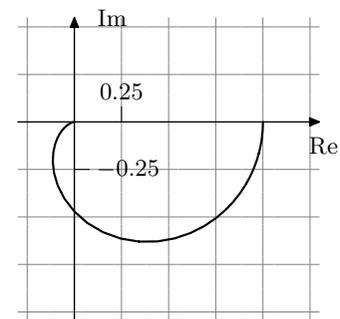
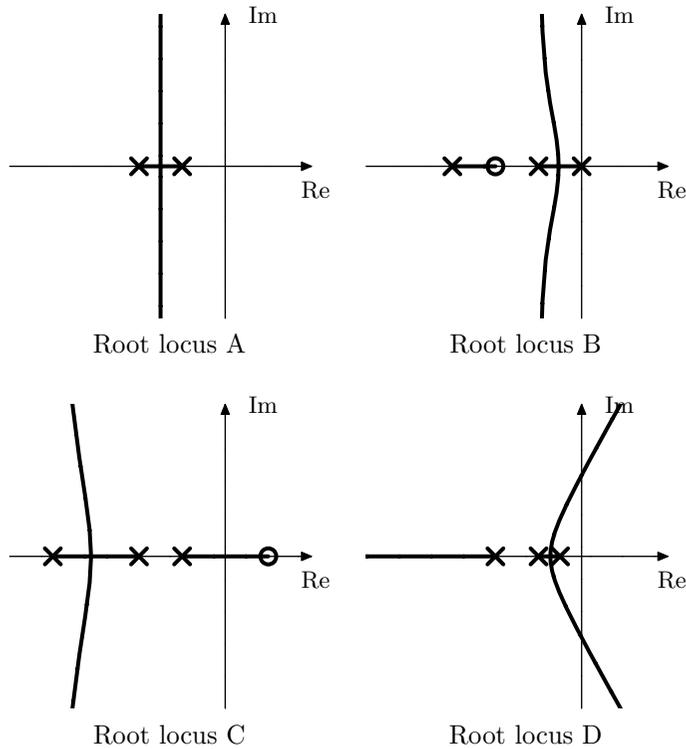

Figure 3.20a
Figure 3.20b. Starting points ($K = 0$) are marked \times , and end points ($K \rightarrow \infty$) are marked \circ . All diagrams have equal scaling.
3.20 The Nyquist curve for the system $G(s) = \frac{B(s)}{A(s)}$ can be seen in Figure 3.20a. Determine which one of the root loci in Figure 3.20b that matches